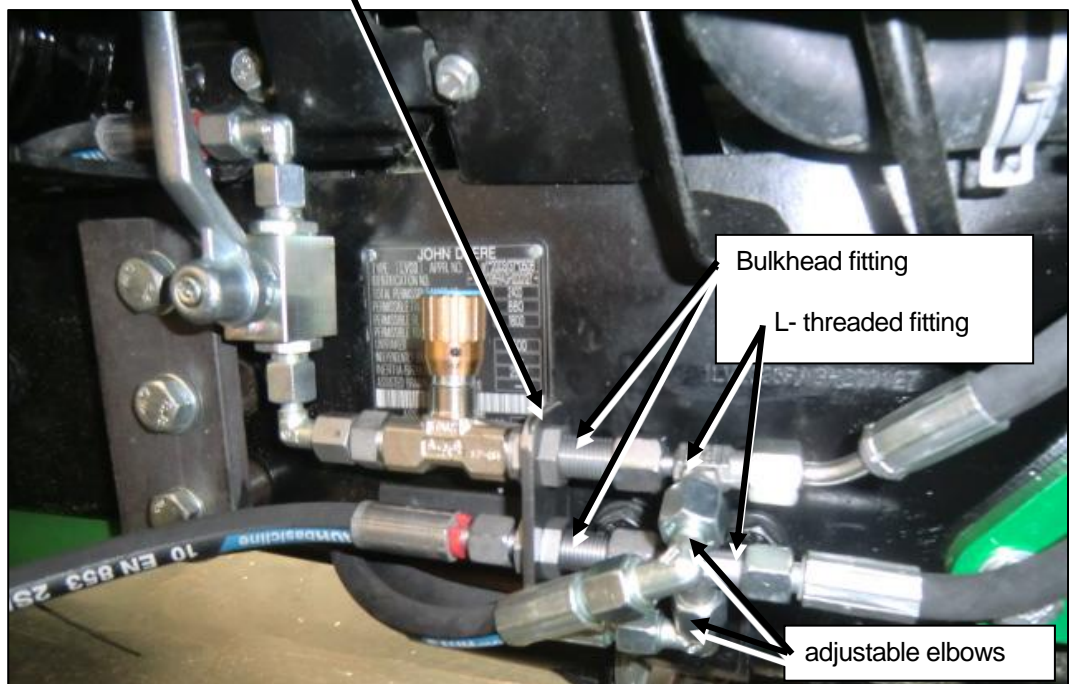

Fig. 7: Hydraulic holder on left side of the tractor frame in the direction of travel
10. Mount the two adjustable elbows on L-threaded fittings (see Fig. 7)